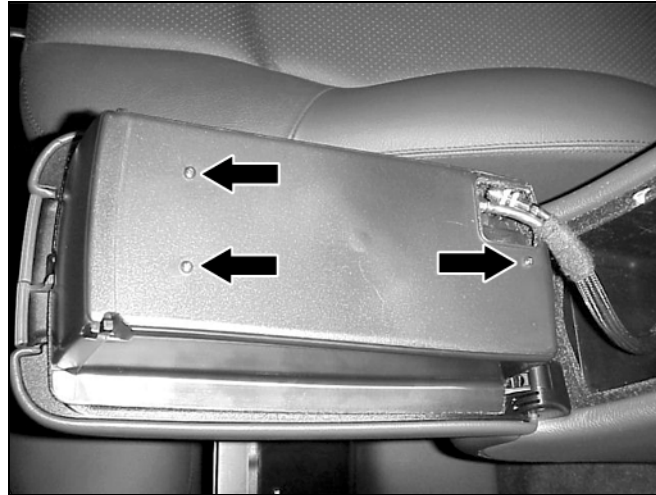

Figure 9
1. Open the lower storage compartment of the center console and remove the three screws from the upper compartment underside securing the Tele Aid button assembly false floor (Figure 9).